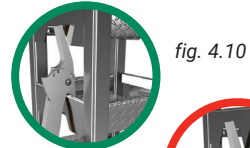
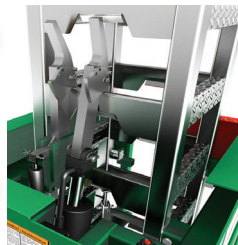

fig. 4.10
fig. 4.14
- 3- Make sure that the engine is running at full throttle and that the cylinder hook and the secondary hook are properly engaged (fig. 4.10 and fig. 4.11) and on the same mast rung (fig. 4.14, p. 60). Failure to engage the hooks correctly can cause the platform to drop.
Make sure the cylinder hook and the secondary hook are properly engaged (fig. 4.10 and fig. 4.11) and on the same mast rung (fig. 4.14, p. 60) before raising or lowering platform. Failure to engage hooks correctly can cause the platform to drop.